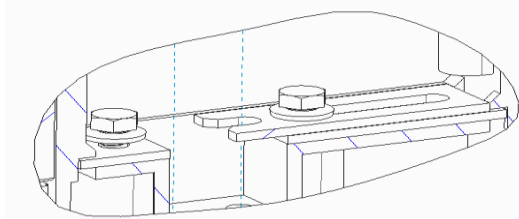

Fig. 2
4. Before attaching the neutral assembly to the mounting plate, ensure the central copper link is in the correct position. See Fig. 2 for details.